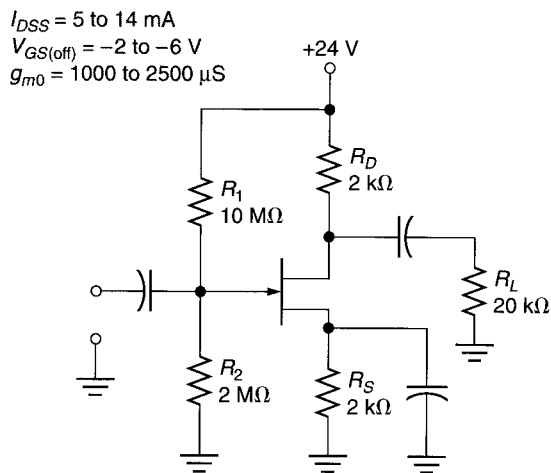

FIGURE 12.62
25. Determine the ranges of  $I_D$  and  $V_{DS}$  for the circuit shown in Figure 12.62.
33. Determine the range of  $A_v$  values for the circuit shown in Figure 12.62.